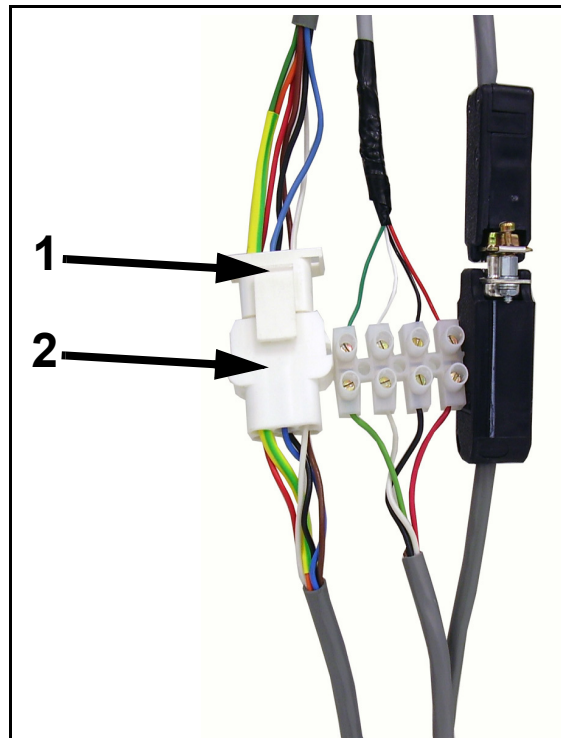

Figure 2-14. Bucky Cables
- 1 Connect the wallstand bucky cable (1 in Figure 2-14) to the system bucky cable (2).